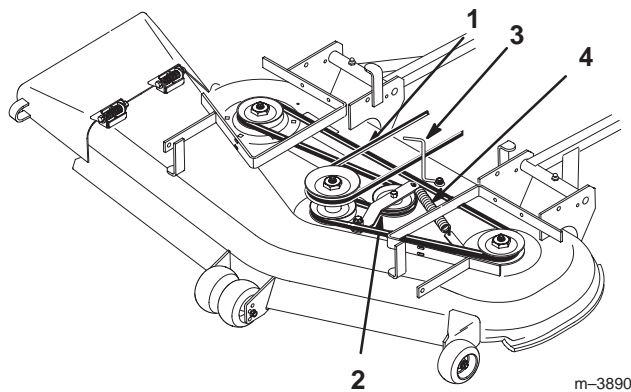

Figure 50
3. Remove idler spring from idler arm, then remove the worn deck belt (Fig. 50).
4. Install the new deck belt around the spindle pulleys, belt guide, the idler pulley, and in the lower groove of the center spindle pulley (Fig. 50).